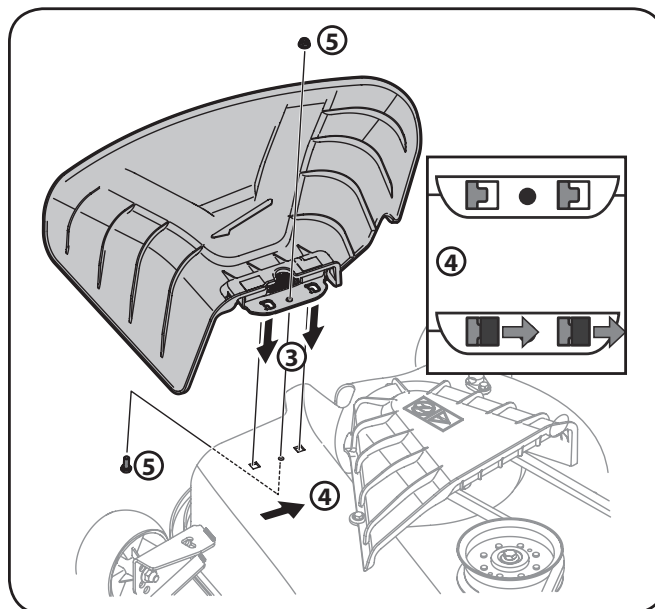
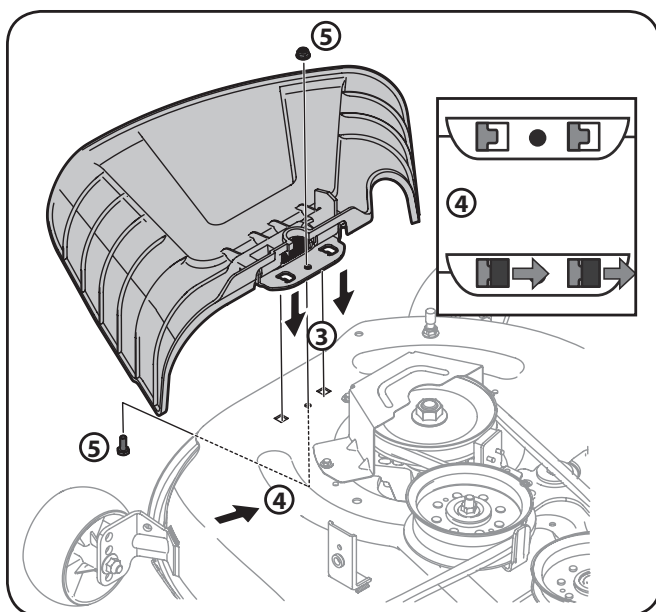

Figure 3-6 (50"/54")
Figure 3-7 (42'')
- Place the chute deflector on the deck, be sure to insert the tabs on the chute deflector into the holes on the deck. See Figure 3-6 for 50/54" decks and Figure 3-7 for 42" decks.
4. When the tabs are installed in the deck, slide the chute deflector toward the rear of the tractor until the bolt hole in the chute deflector aligns with the hole in the deck. See Figure 3-6/Figure 3-7.
5. Secure the chute deflector in place with the flange lock nut and hex screw removed in step 2. Tighten to 102-124 in-lbs. See Figure 3-6/Figure 3-7.